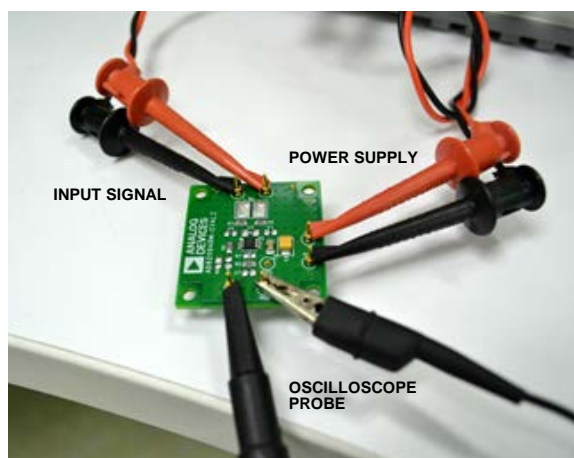

Figure 5. Completed Connections for Quick Start Operation
3. Connect the oscilloscope probe to the OUT pin as shown in Figure 5.